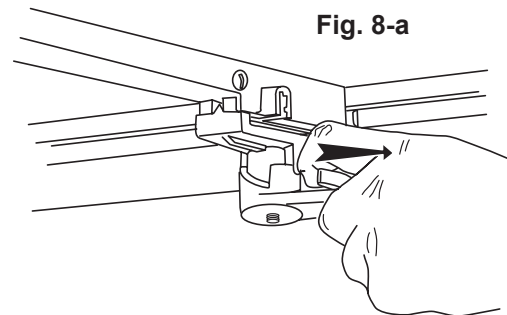

Fig. 8-a
2. Before rotating the front handles, disengage the locking tabs by pulling them rearward on both front handles. See Fig. 8-a